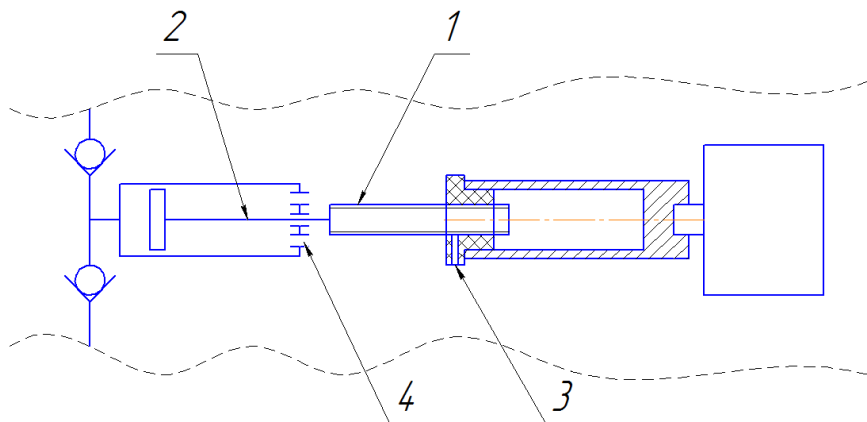

Рис. 4.
8.3.2 Remove old grease from ball-and-screw units 1 (Fig. 4) and piston rods 2 with clean, soft cloth.